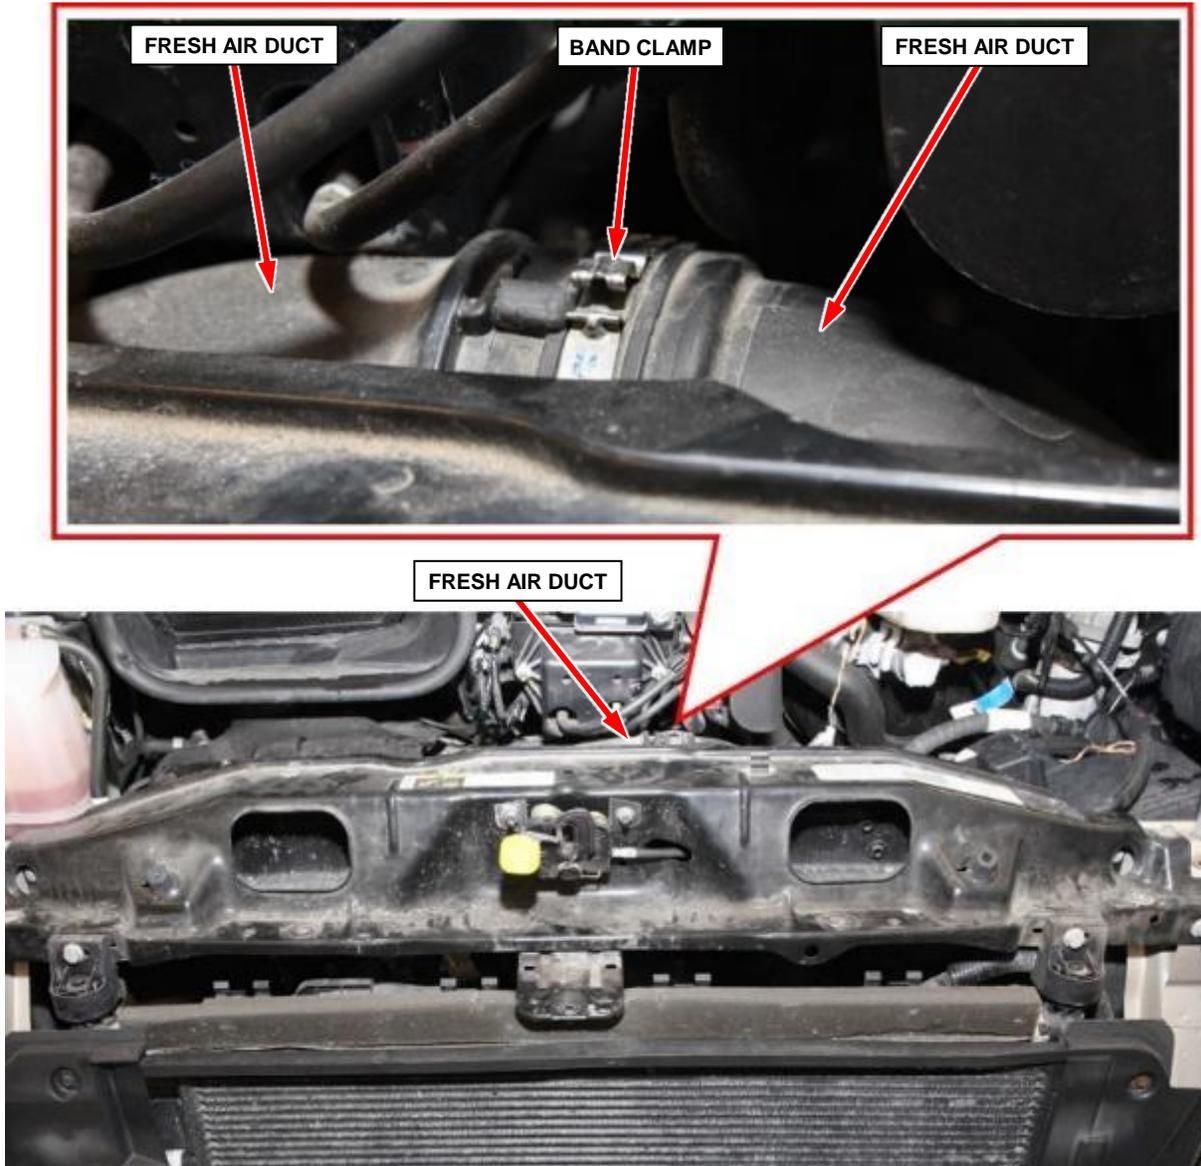

Figure 14 – Fresh Air Duct Band Clamp
8. Release the band clamp then separate the fresh air duct connection (Figure 14).
34. Connect the fresh air duct and secure the band clamp (Figure 14).